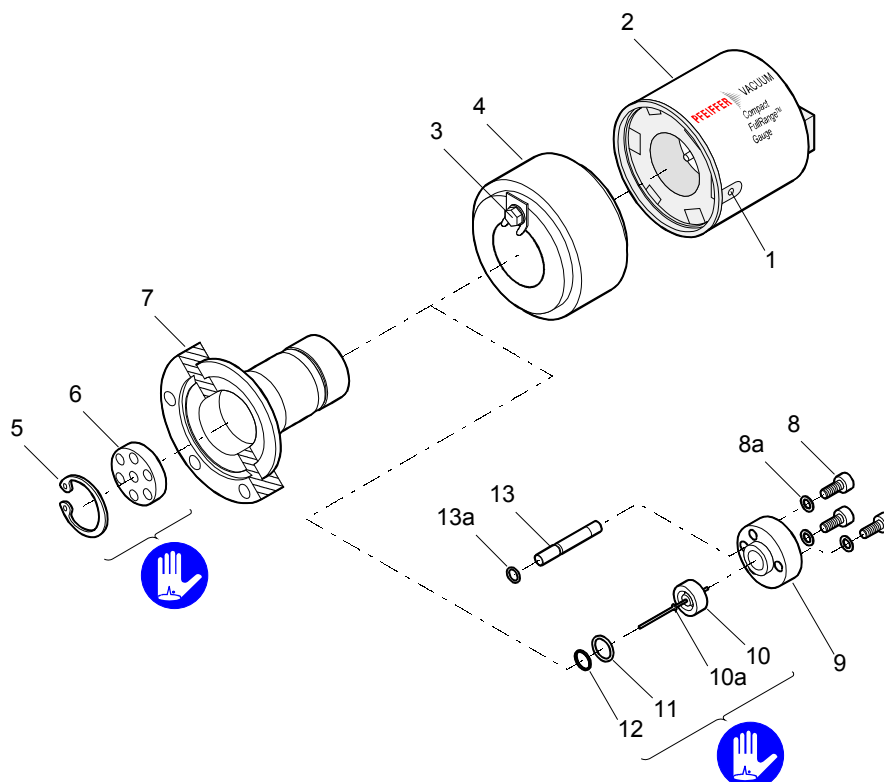

Figure 2
- Unfasten the hexagon socket set screw (1) on the side of the electronics unit (2) (→ Figure 2).
- a) Remove the used ignition aid (10a) with pliers (→ Figure 2).
- a) Insert the Viton seal (11) with the support ring (12) centered into the measuring chamber (7). The sealing surface, seal, and ceramic part must be clean (→ Figure 2).
- b) Carefully insert the anode (10) incl. ignition aid (10a) into the measuring chamber.
- c) Insert the Pirani element (13) with the Viton seal (13a) slid over it into the corresponding bore hole.
- d) Carefully place the pressure piece (9) on the measuring chamber and tighten them with the three hexagon socket screws (8) incl. lock washers (8a) uniformly until the stop position is reached.
- g) Slide the polarity insert (6) into the measuring chamber until the mechanical stop is reached.
- h) Place the circlip (5) snugly fitting on the polarity insert.